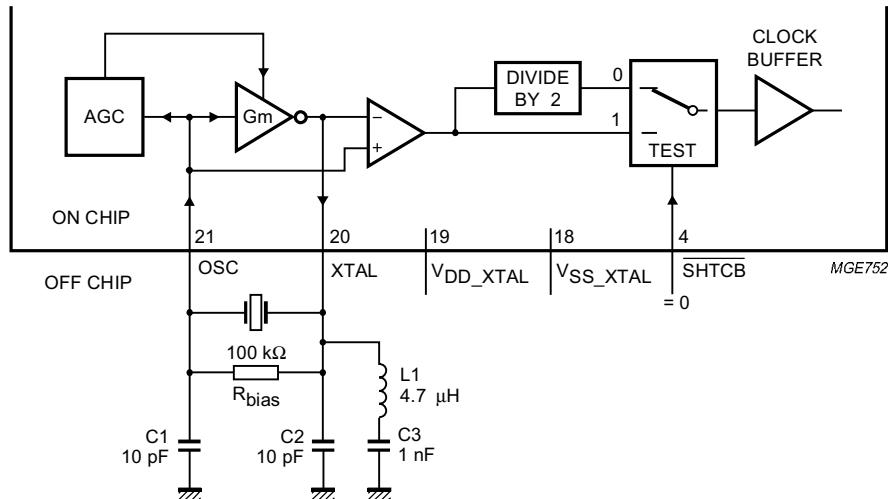

Fig.3 Block diagram crystal oscillator circuit.
The chip has an on board crystal clock oscillator. The block schematic of this Pierce oscillator is shown in Figs 3 and 4. The active element needed to compensate for the loss resistance of the crystal is the amplifier  $G_m$ . This amplifier is placed between the XTAL (output) pin and the OSC (sense) pin. The gain of the oscillator is internally controlled by the automatic gain control. This prevents too much power loss in the crystal. The higher harmonics are then as low as possible. The signals on the OSC and XTAL pin are differentially amplified.
**The crystal oscillator mode:** in this mode (see Fig.3), a quartz crystal oscillator is used to generate a clock signal which is subsequently divided by 2 to ensure that the final clock signal has a 50% duty cycle.